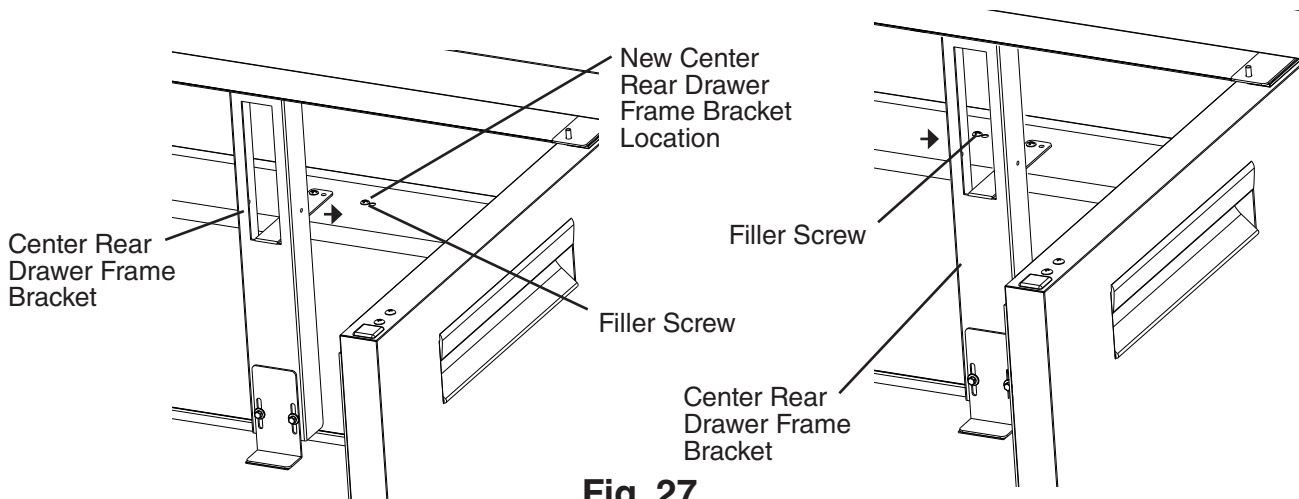

Fig. 27
- 6) Remove the center rear drawer frame bracket and the filler screw. See Fig. 27. Slide the center rear drawer frame bracket over to the new location and secure it. Place the filler screw in the former center rear drawer frame bracket hole.